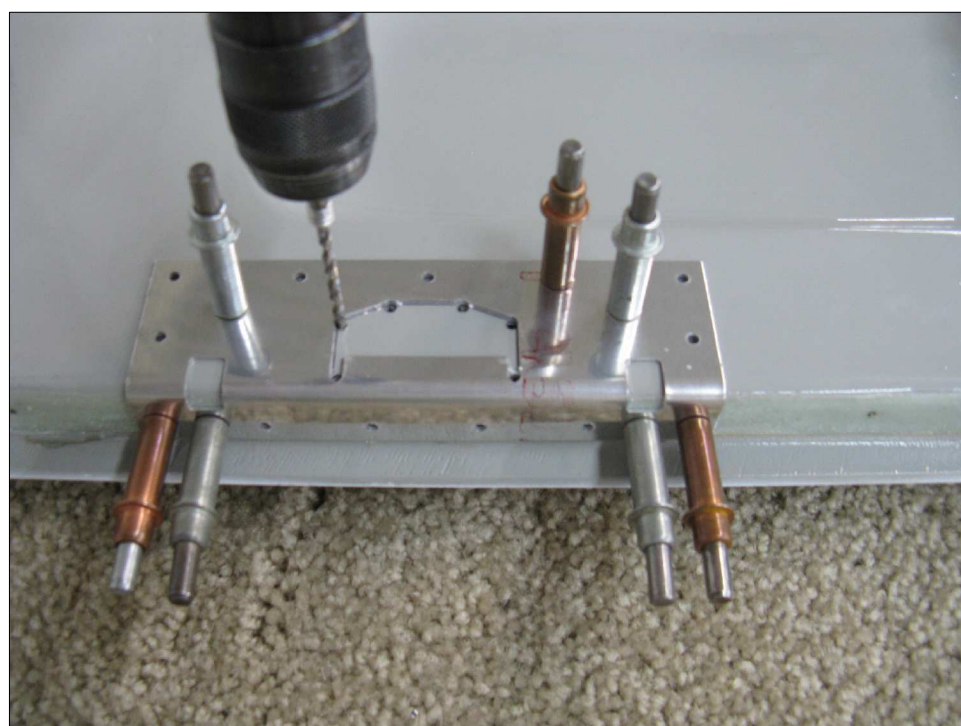

FIGURE 3:
Step 4: Position the C-1021BC Drill Template on the lower edge of the C-1002-L Door as shown in Figure 3.
Perforate the opening in the door by drilling closely spaced #30 holes centered on the lines marked on the door as shown in Figure 3. Finish the opening perforation by drilling a line of holes between the two lowest corner holes.